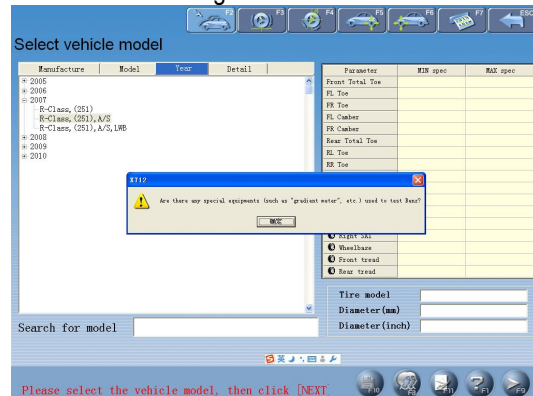

Fig.4.4
1. Aiming at some vehicle model of Benz, the system provides the operations for measuring the standard data with gradient meter. When the data selected is of Benz vehicle, the system will pop up a dialogue box as shown in Fig.4.4.